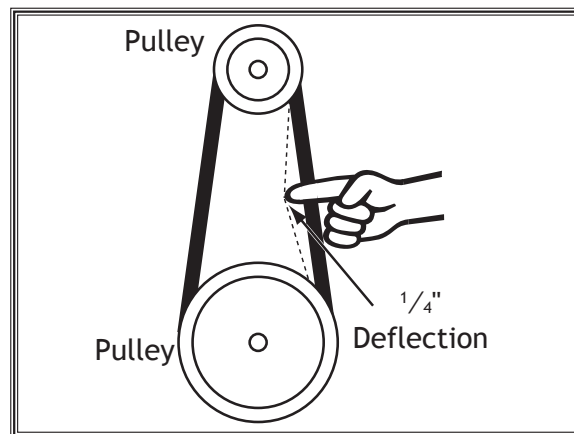

Figure 52. Testing for proper belt tension.
4. Press the belt with moderate pressure midway between the pulleys. The deflection should be approximately $\frac{1}{4}$ ", as illustrated in **Figure 52**.